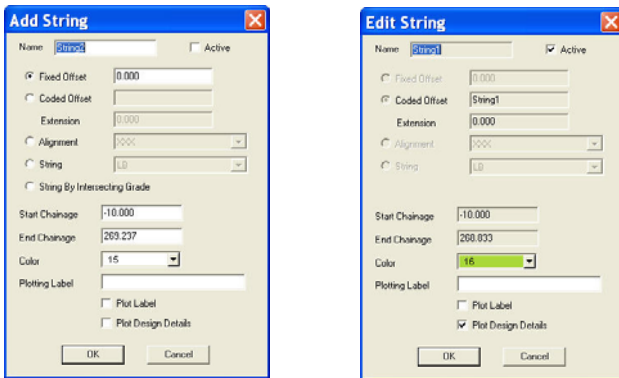

Figure 18-28. The Add String/Edit String Dialog Box
Use the Add String command to add a new string to the design based on a fixed offset, coded offset and extension, or another alignment or string in the Survey. Check mark the *Active* box to attach a template to enable the string to accept various templates (Figure 18-28 on page 18-30).
1. Click **Alignment ▶ Add String**. The *Add String* dialog box appears (Figure 18-28 on page 18-30).
Edit a String To use the Edit String command, click **Alignment ► Edit String** (the *Edit String* dialog box displays), to edit the parameters found in the *Add String* dialog box (Figure 18-28). You can change the color, make a string active and alter the plotting label of a selected string.